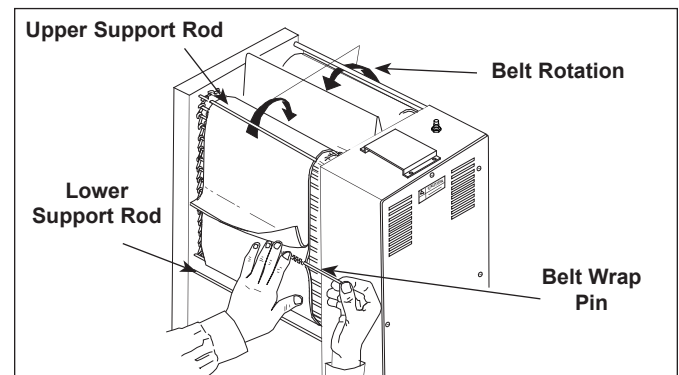

Figure 7. Installing Belt Wrap
3. Open both Conveyor Covers and pull the Belt Wrap Pin out of the zipper (Figure 7).
6. Install the new Belt Wraps around the Conveyor Belt Chains inside the Upper and Lower Support Rods with the zipper flap exposed and hanging down (Figures 7 & 8).